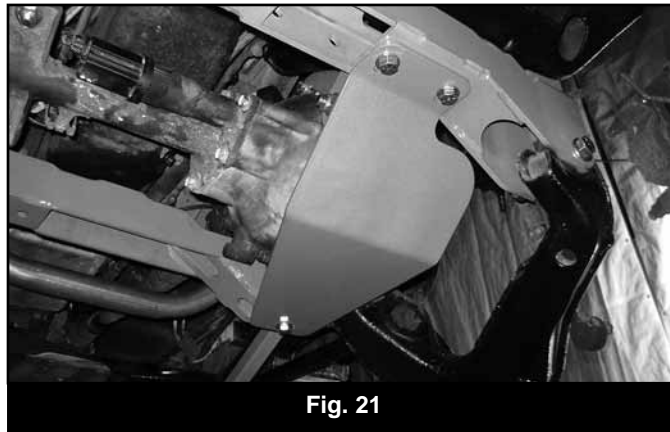

Fig. 20B
38. Fasten the passenger's side of the differential to the new bracket with two 9/16" x 1-1/2" bolts, nuts and 9/16" washers (BP 555). Snug hardware (Fig 20B).